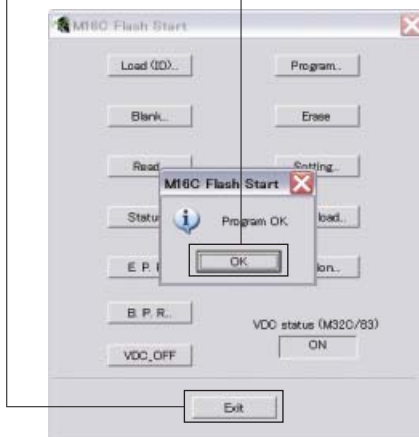

Fig. 8
- When writing of the firmware is completed, the screen appears as shown below. (Fig. 8)
Click [OK]. (Fig. 8)
- Click [Exit] to end FlashSta.exe. (Fig. 8)